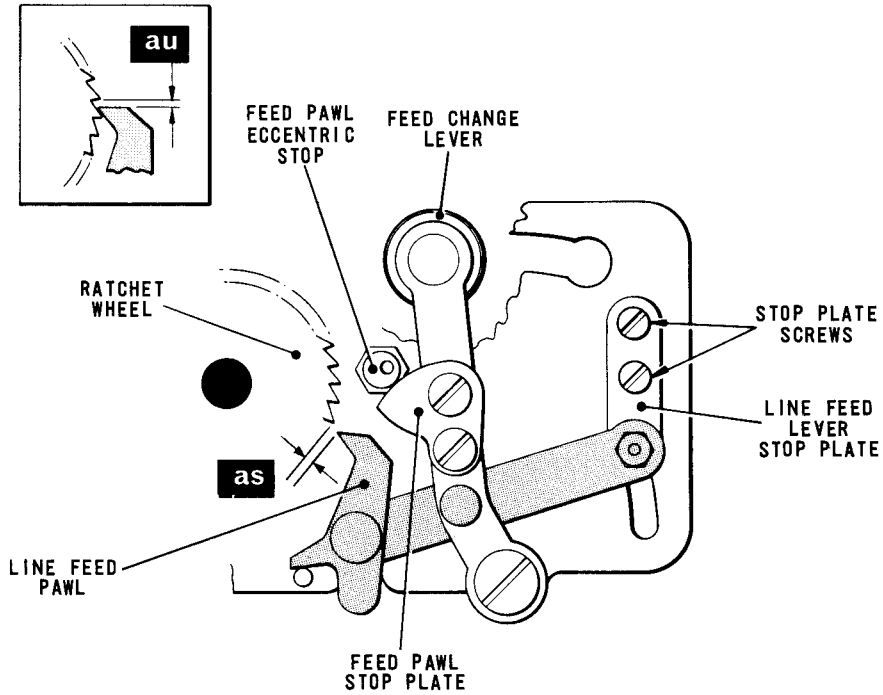
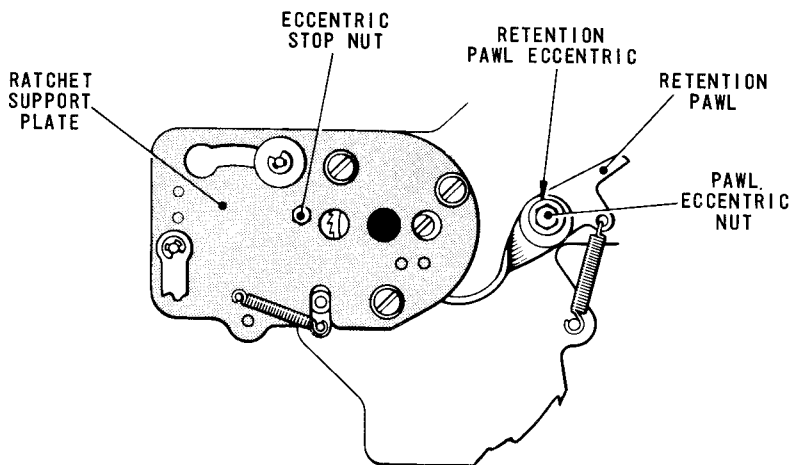

Fig. 4.37 LINE FEED RATCHET WHEEL MECHANISM
Fig. 4.41 RATCHET SUPPORT PLATE
- 42.1 Move the feed change lever, Fig.4.37, to the double feed position, i.e. towards the front of the machine.
- 42.4 Move the feed change lever, Fig.4.37, to the single feed position and repeat Checks 42.2 and 42.3.
- 43.1 Move the feed change lever, Fig.4.37, to the double feed position. Depress the Line Feed Key or, if the machine has no keyboard, set up the Line Feed code combination (SMSSS) on the pins. Lift the translator clutch abutment and turn the machine by hand until the line feed mechanism is fully fed. Check that the feed pawl is now clear of its eccentric stop. Check also that there is a maximum clearance of .015 in. (dimension 'au' - inset) between the feed pawl and the next tooth of the ratchet wheel.
- ★ If the movement available on the pivot is insufficient to satisfy Check 43.1, slacken the two ratchet wheel clamp screws, move the ratchet wheel slightly with respect to the platen and tighten the clamp screws. Access to the clamp screws is via the hole in the ratchet support plate, Fig.4.41.
- 44/3 Depress the Line Feed key or, if the machine has no keyboard, set up the Line Feed code combination (SMSSS) on the pins. Lift the translator clutch abutment and turn the machine by hand until the line feed mechanism is fully fed. Ensure that the retention lever roller is fully engaged in the retention wheel. Check that the feed pawl, Fig.4.37, is now clear of its eccentric stop and that there is a maximum clearance of .015 in. (dimension 'au' - inset) between the feed pawl and the next tooth of the ratchet wheel.
- 46.1 Move the feed change lever, Fig.4.37, to the double feed position. Depress the Line Feed key or, if the machine has no keyboard, set up the Line Feed code combination (SMSSS) on the pins. Lift the translator clutch abutment and turn the machine by hand until the line feed mechanism is fully fed.
- 46.3 If this is not so, slacken the eccentric stop securing nut, Fig.4.41, and turn the eccentric stop, Fig.4.37, until the correct amount of overthrow is present. Tighten the nut.
- 47.1 With the machine in the rest position, check that the retention pawl, Fig.4.41, is engaged in the ratchet wheel and that it is possible to turn the platen against the normal direction of rotation by a maximum of .015 in. measured at the edge of the platen.